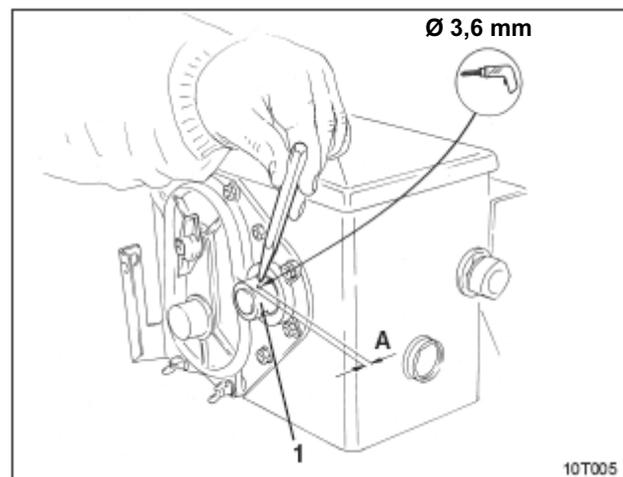

Fig. 9.2
- Using the borer provided, drill a hole (\varnothing 3.6 mm) in the hollow gearbox input shaft (Fig. 9.2/1).
Distance A (see Fig. 9.2) from edge of hollow shaft to centre of bore is **5 mm. Mark hole.**